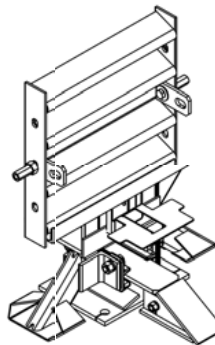

Figure 35
- Remove the Nose Assembly and attach a chain to the pullout brackets on the Diaphragm. Figure 35. Attach both ends of chain to a heavy vehicle such as a 1 ton truck.